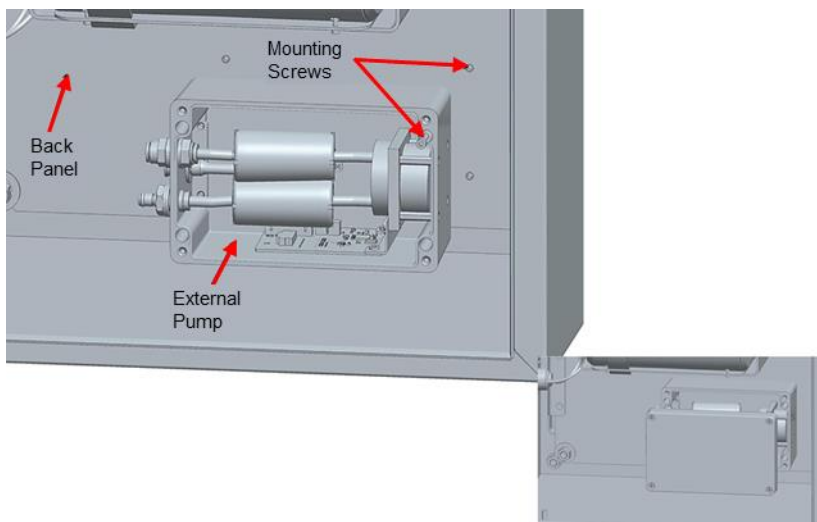

Figure 15: Mount External Pump
3. Mount external pump to the back plan using mounting screws and replace the cover as shown in Figure 15.